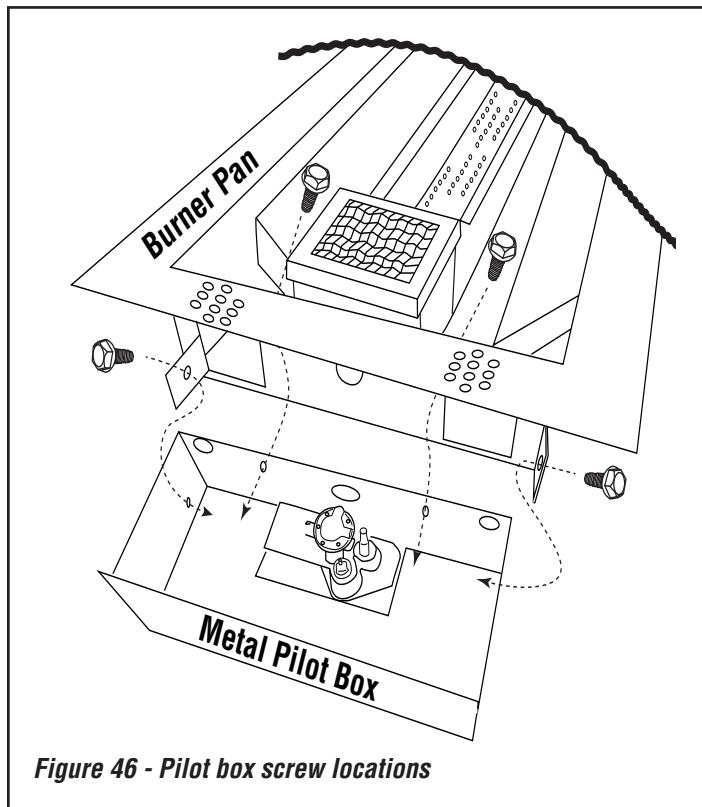

Figure 46 - Pilot box screw locations
Step 7. On the end of the burner pan where the pilot is located (see **Figure 46**), remove the four (4) 1/4" hex head screws securing the metal pilot box. Two screws are located inside the burner pan, one on each side of the igniter box screen mesh hood and the other two are securing a metal tab on each side of the pilot box. See **Figure 46** for screw locations.
Once the orifice has been converted to LP then re-install the pilot hood, ensure the clip is in place (if removed) and mount the metal pilot box back into place ins the same manner you removed it from the burner pan. See **Figure 46** as a reference.